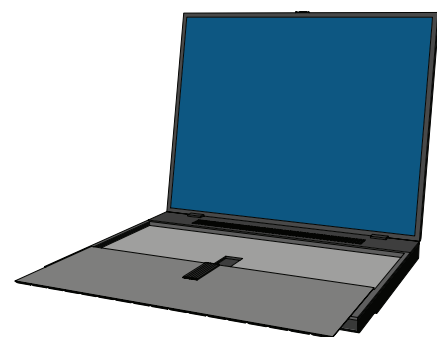

Fig.13
1. Place the keyboard panel upside down of the top of the notebook surface. (See Fig.13)